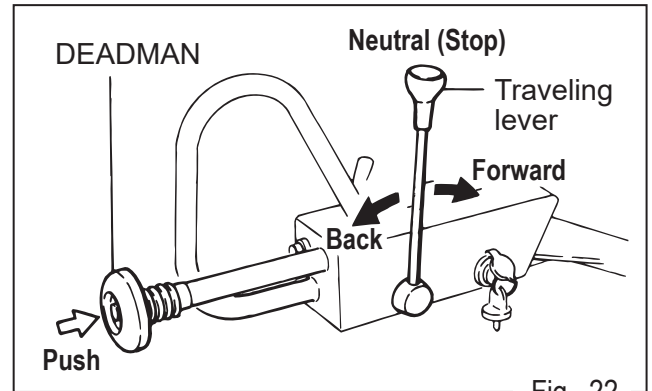

Fig. 22
- In case DEADMAN is pushed during traveling in reverse, the travel lever return to neutral position. (Fig.22)